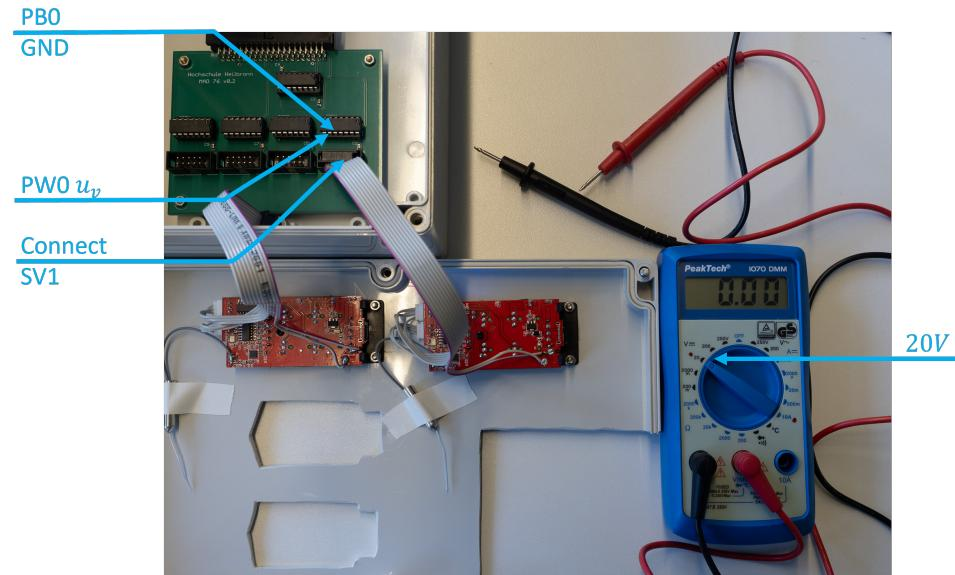

Figure 5: Exercise 2: Measure u_v with a multimeter
2. Measure the motor and steering signal voltages of the digital potis of RC 1 with a multimeter (see Figure 5)
- Check the voltages according to equations (3) and (??):